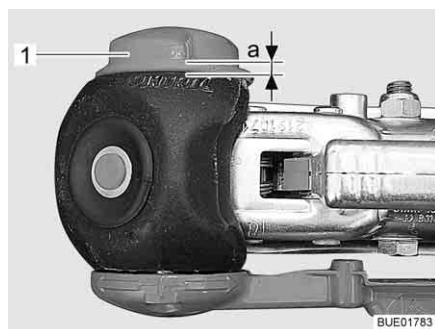

Fig. 208 Friction control
- Turn the handwheel (Fig. 208,1), until it can be heard and felt that the torque limiting mechanism grates. Rotation direction: clockwise.
- Distance $a > 0$ (Fig. 208): Wear within the permissible range.